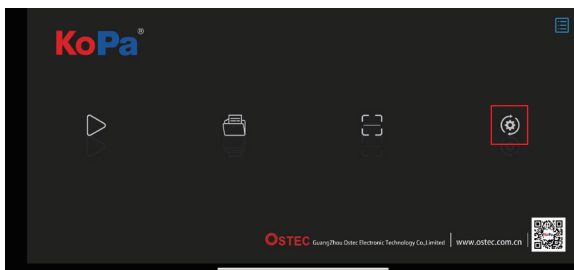
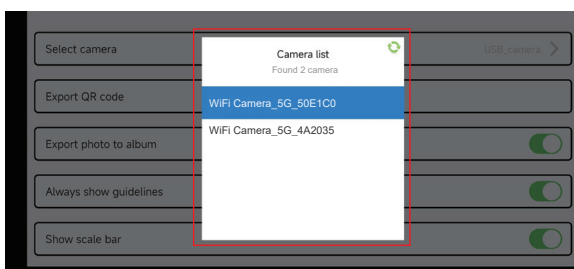

Figure 1
Figure 3
- (1) Connect the cell phone or tablet that supports 5G WiFi IEEE802.11ac protocol to the same local area network as the camera.
- (2) Install and run the App KoPa WiFi Lab on the phone or tablet, enter the navigation interface and click the "  " button.
- (3) When there is only one network camera in the local area network, the App can automatically get the live image from the camera.
- (4) When there are multiple network cameras in the same local area network, click the icon "  " in the navigation interface (Figure 1), pop-up menu (Figure 2). The list automatically shows all cameras in the current local area network (Figure 3), select a camera as needed, support switching midway at any time.